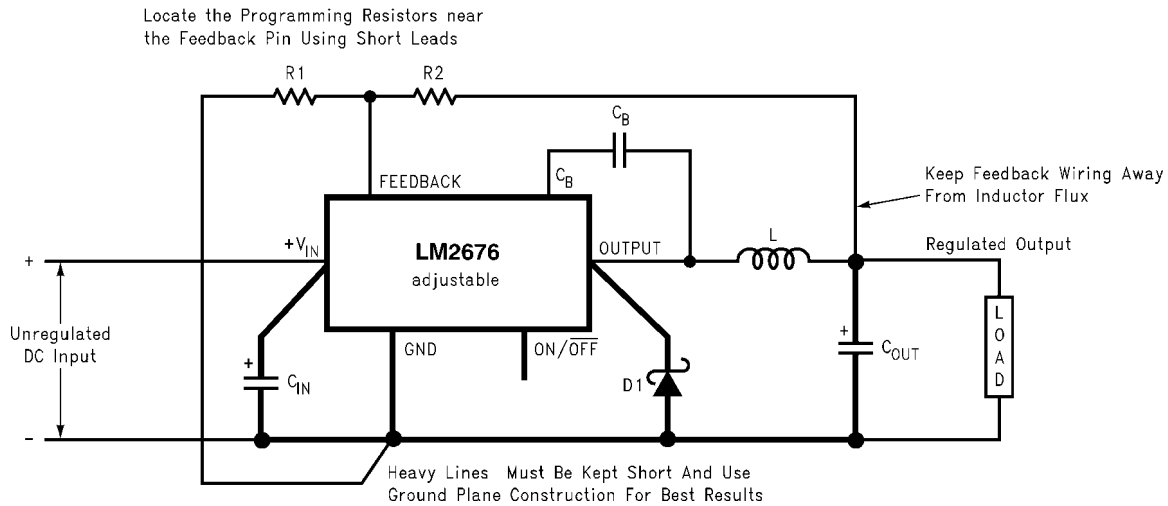

Figure 8-7. Basic Circuit for Adjustable Output Voltage Applications
Step 2: Select an LM2676S-ADJ. To set the output voltage to 14.9 V, two resistors must be chosen (R_1 and R_2 in Figure 8-7). For the adjustable device, the output voltage is set by the following relationship: